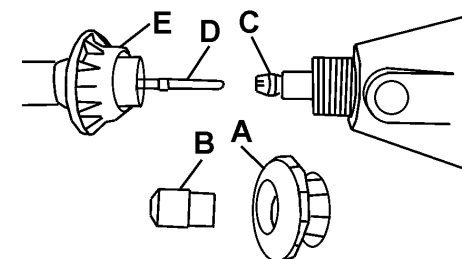

Figure 3
Unscrew the housing nut (A) Fig.3 and remove it. The collet nut (B) and the 1/8" collet (C) must be kept in place. Mount the Flex Shaft by placing the inner shaft (D) into the tools' chuck, secure it in place by tightening the collet nut. Then using the Flex Shaft housing nut (E), fix the Flex Shaft to the rotary tool by turning it clockwise.